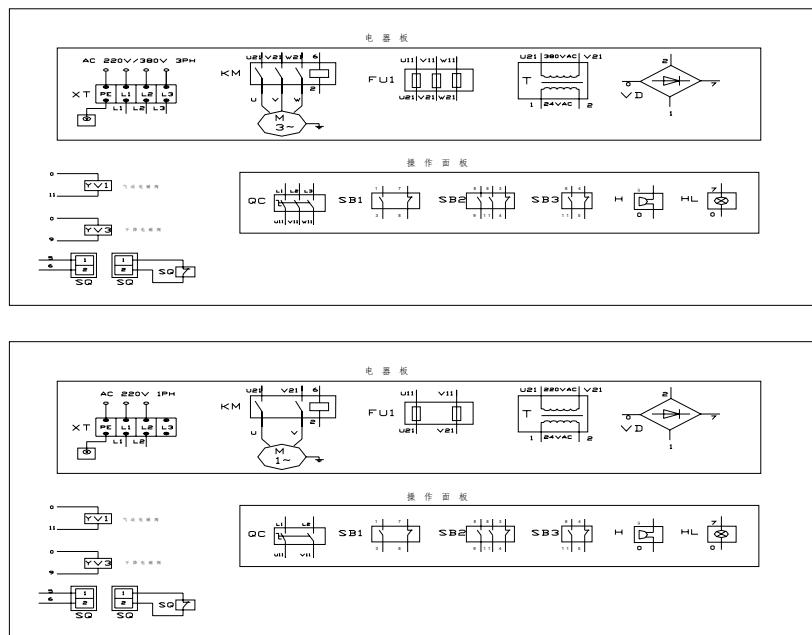

Fig8
- Open the door at the back of the control desk. Connect power input cable to terminal L1, L2, L3, PE. (Fig.8). Switch on the power and the indicator will light on.